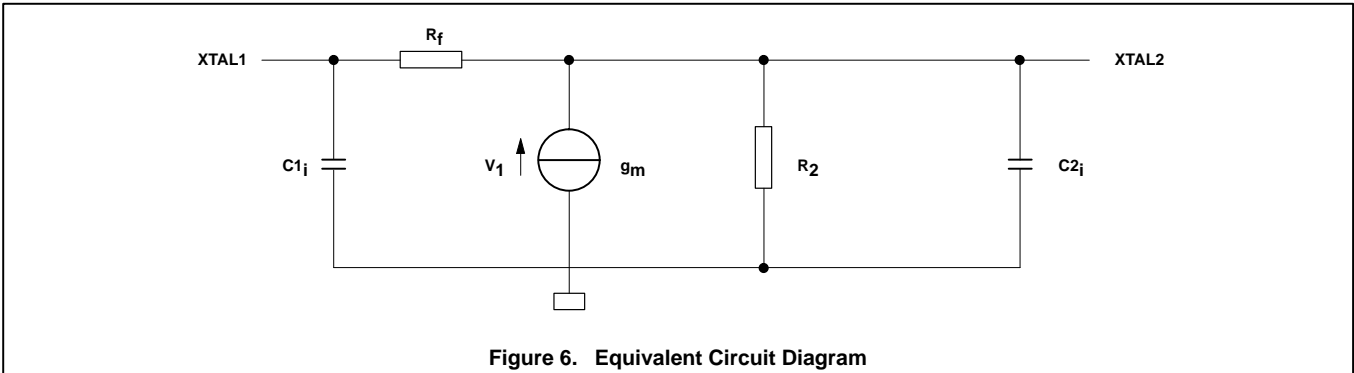

Figure 6. Equivalent Circuit Diagram
**Table 5. Oscillator Equivalent Circuit Parameters (see Figure 6)**